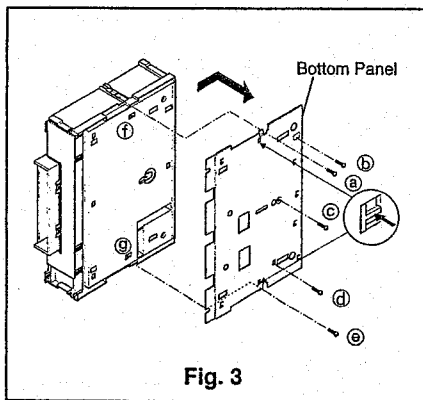

Fig. 3
- ① Remove five fastening screws (Ⓐ~Ⓔ) shown in Fig. 3.
- ② Push the two inside hooks (Ⓘ and Ⓢ), holding the Bottom Panel and slide the Bottom Panel toward the rear to remove it.